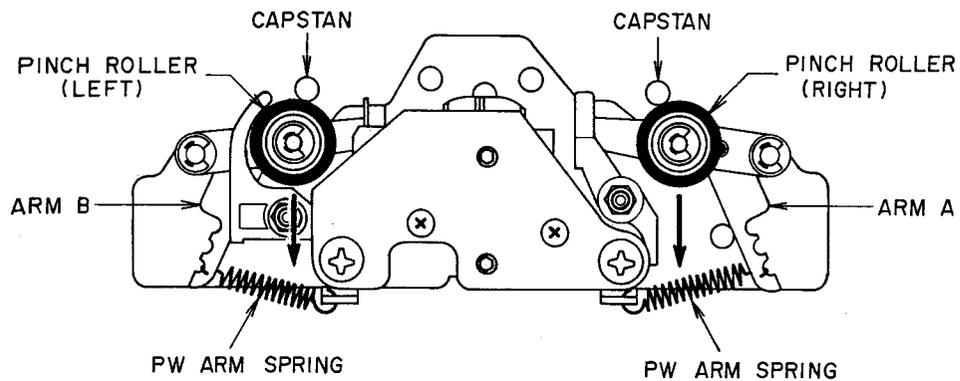

Fig. 6
4) Pinch Roller Pressure Adjustment (Refer to Fig. 6)
If not, adjust play solenoid installation position as indicated by the arrow mark in Fig. 6 to obtain specified gap.